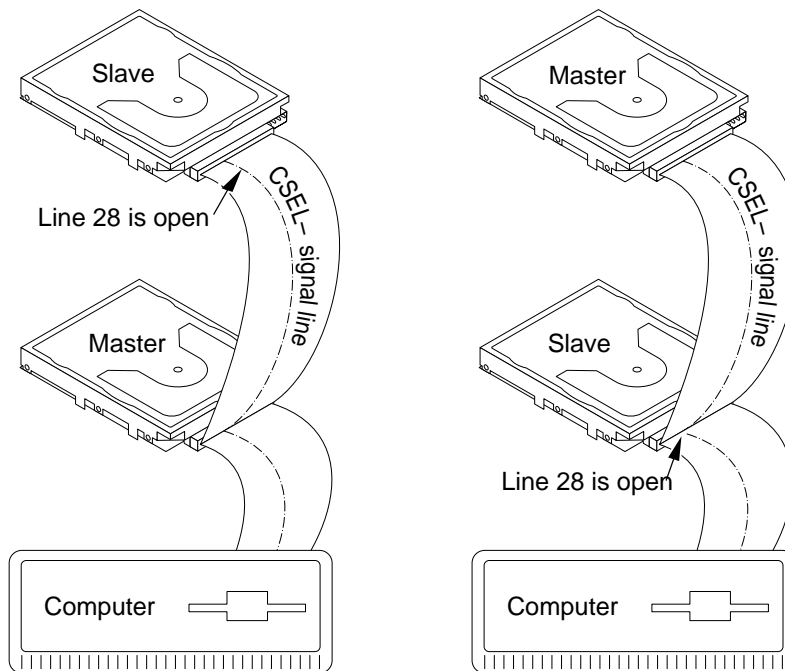

Figure 4. Connecting cable-selected drives
If your computer and both of your drives support cable select, you can use the cable select option to determine the master and slave, according to the following guidelines, which are illustrated in Figure 4.
- Use a cable built for cable select to designate master and slave. The cable and its connectors transmit the CSEL signal (pin 28) to the master drive, but not to the slave drive, as shown in Figure 4.